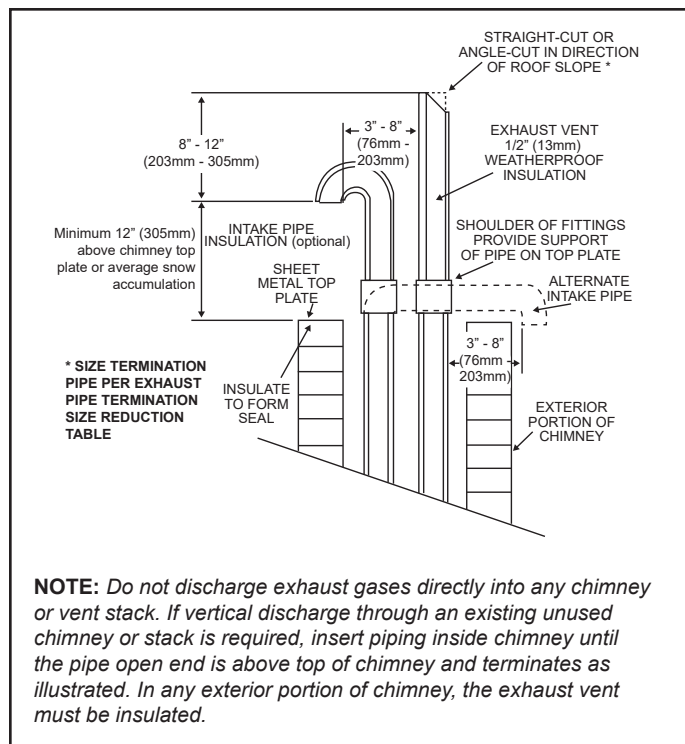

Figure 26. Direct Vent Application Using Existing Chimney
3. A multiple furnace installation may use a group of up to four terminations assembled together horizontally, as shown in Figure 26.